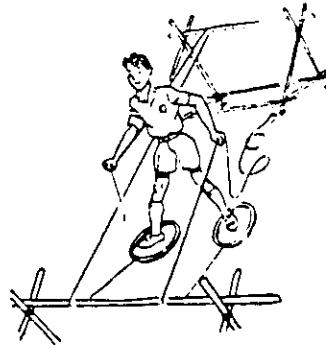

Figure 418 Moving
41. Moving Stepping Stones: This makes a good relay or timed event. This skill may be done by using circular hoops or another method would be to use a couple of small pieces of plank to stand on with an eye screw in each piece of plank to secure the rope. The rope then goes from the plank pieces to a solid bar and back to the walker. If desired, you could use a solid bar on each end of the 25 foot long course and run the rope in various combinations as shown in Figure 418. The object would be to cross the caustic acid field without touching the ground or getting your feet out of the loops. It goes without saying that you will need a little coordination to move hands and feet together.